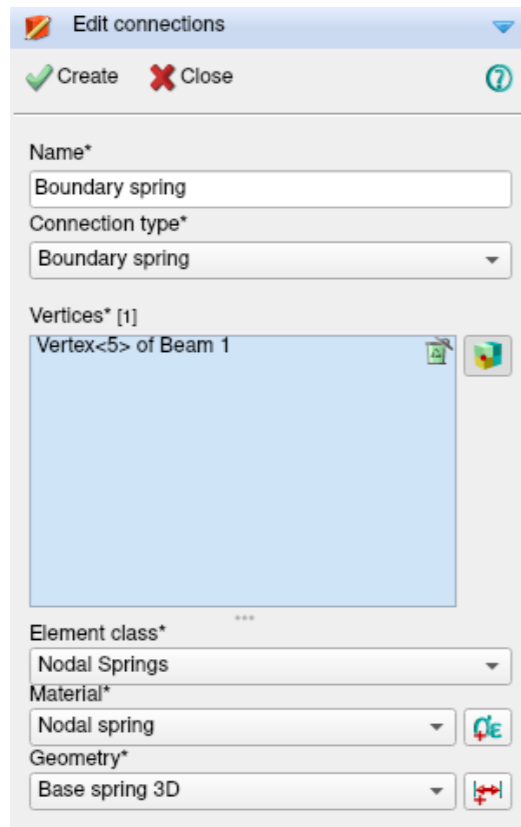

Figure 19: Boundary spring connection
**Main menu** → Geometry → Assign → Connections  [Fig. 19]